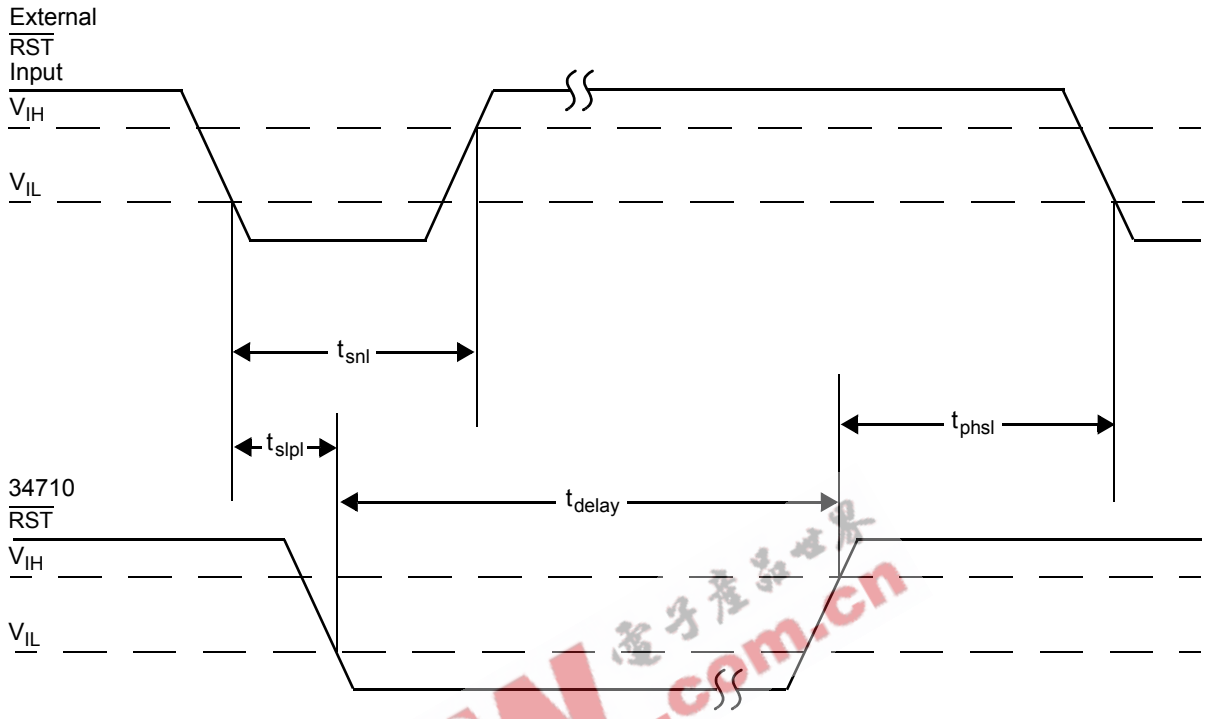
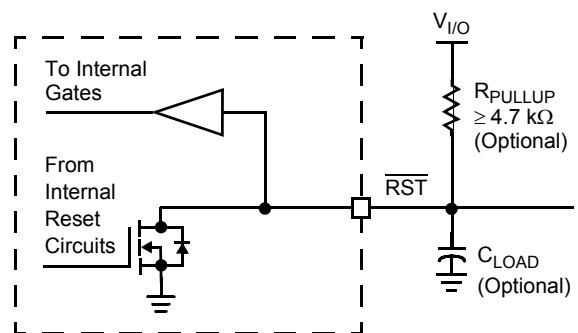

Figure 2. RST Timing
Figure 3. $\overline{\text{RST}}$ Terminal Interface
12. See Figure 2. RST Timing, page 9.
The $\overline{\text{RST}}$ output is an I/O device with an open drain output driver with a pullup and a CMOS digital input gate (Figure 3). This I/O structure allows wired OR connection to the MCU's $\overline{\text{RST}}$ I/O terminal, as well as allowing the MCU to initiate a reset cycle by driving its $\overline{\text{RST}}$ terminal low. When responding to a MCU request for a reset cycle, the 34710 must respond rapidly enough to prevent a glitch. Figure 2, page 9, shows the timing